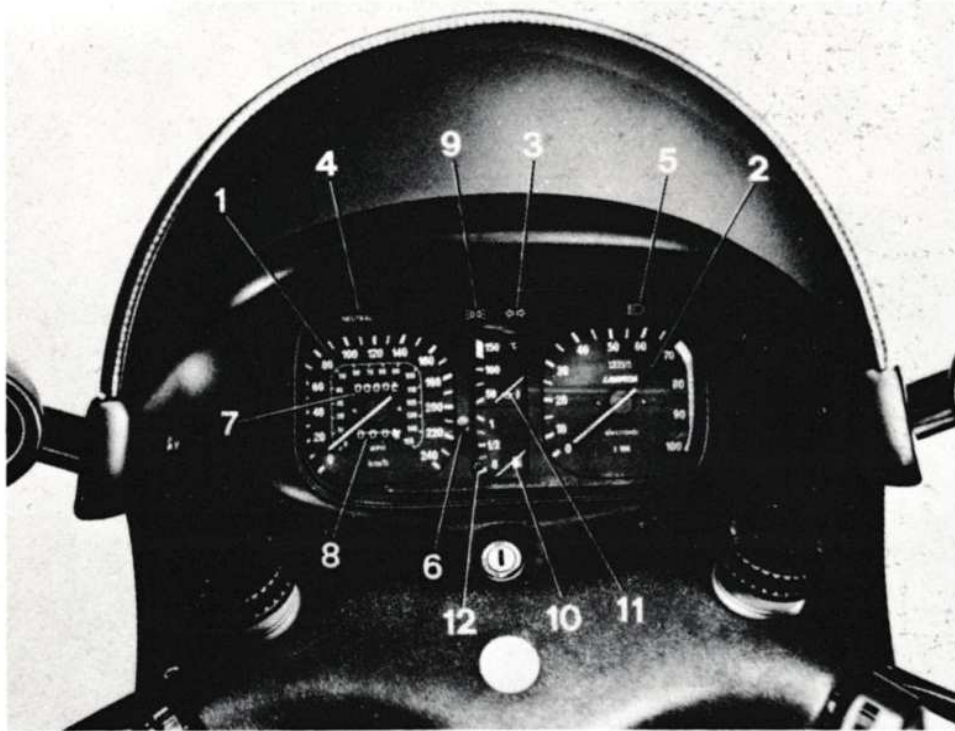

Fig. 1
**Location of Instruments and Indicators. Fig. 1